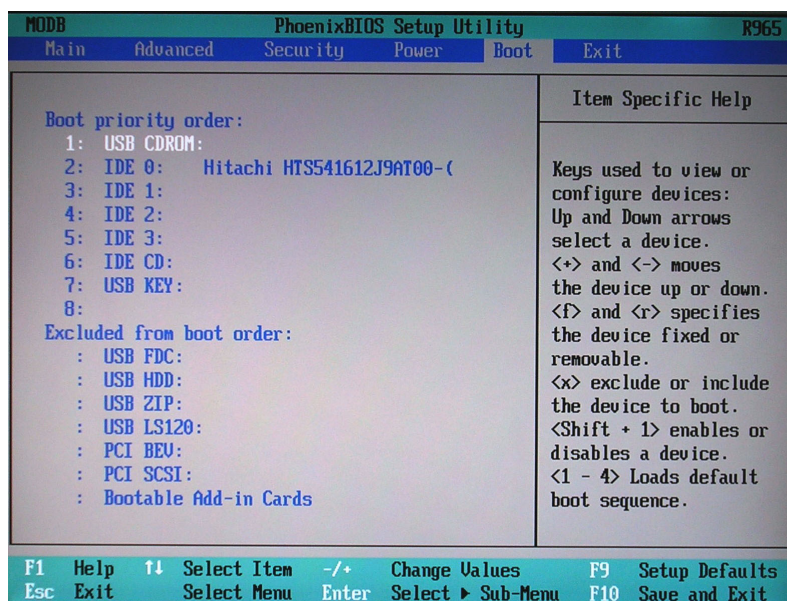

Figure 8-123 BIOS Boot Parameters
Boot	Figure 8-123 on page 8-121
9.) Set the parameters in the **Boot** parameters screen as shown above in Figure 8-123.